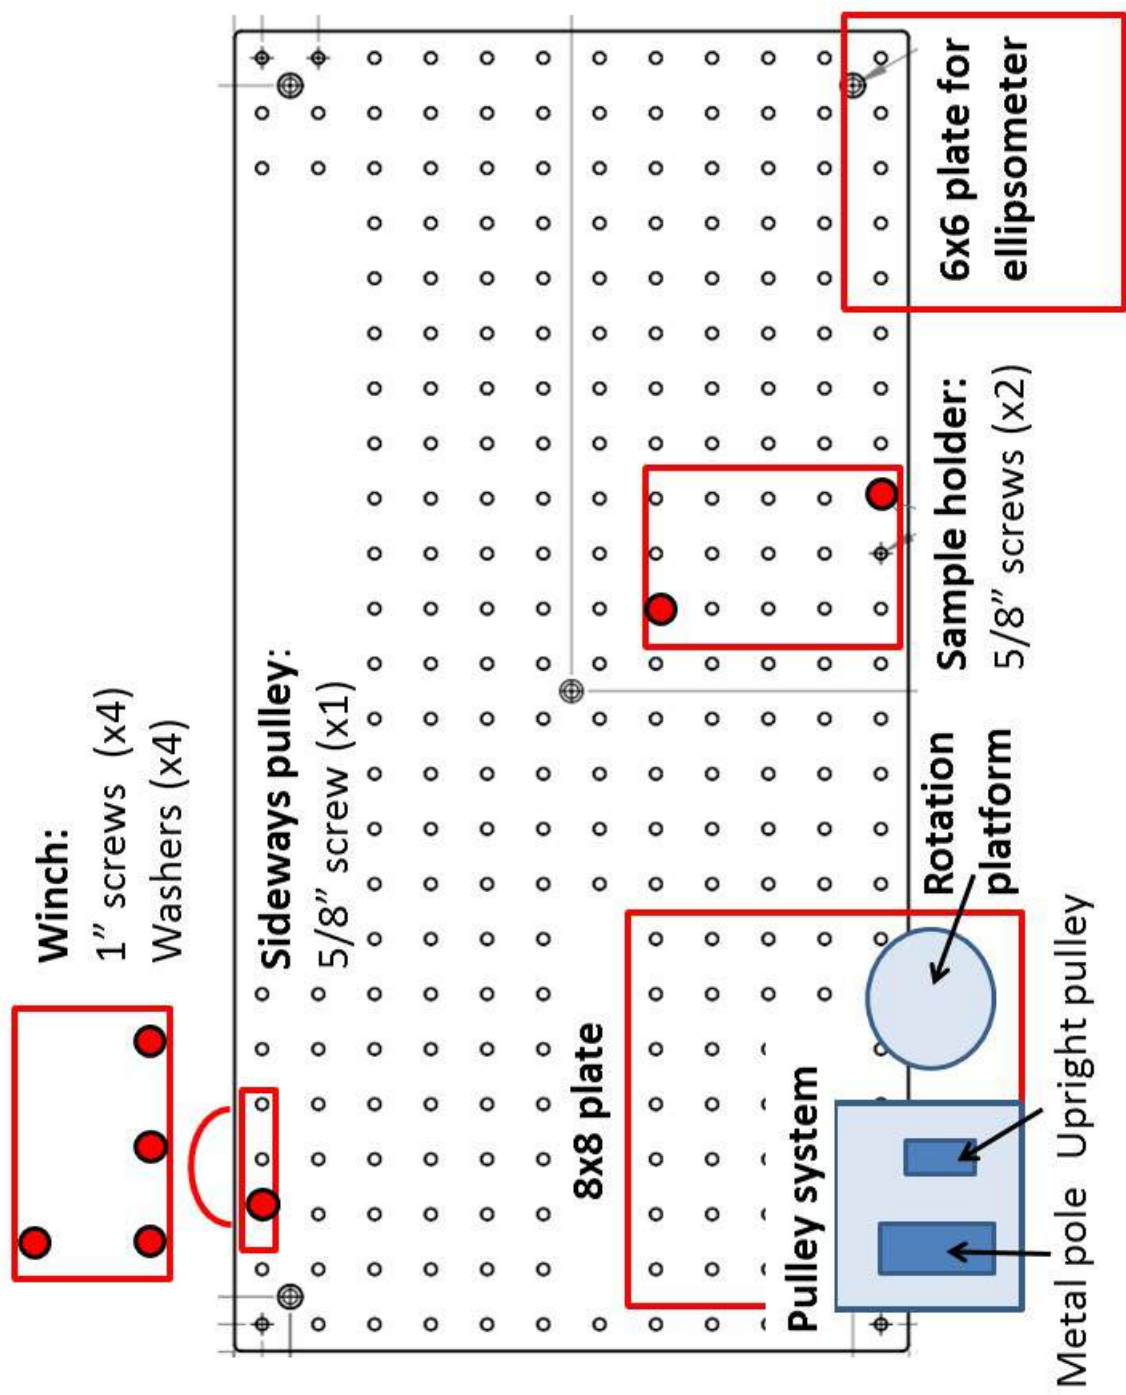

Figure 57: Overall setup of the components directly attached to the main board
1. Place the winch in the top-left corner of the table. Use a power drill to create 4 holes in the table that correspond with the slots at the base of the winch. Attach the winch to the table using 1" screws and washers (refer to Figure 57).
2. Place the sideways pulley in the top-left corner of the main board and orient it so the circular side of the pulley is pointed towards the winch (refer to Figure 57 for placement). Attach the sideways pulley to the main board with a 5/8" screw (x1).
2. Use 5/8" screws (x2) threaded through the back-left and front-right corners of the base of the sample holder to connect it to the main breadboard (see Figure 57 for placement). Make sure the sample stage is parallel to the main board.